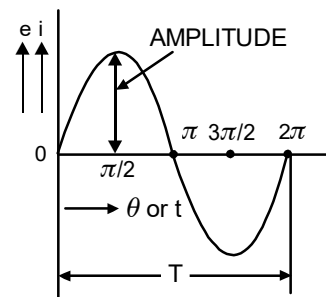

Fig.2.7: Wave shape of induced emf
From the above equation it is clear that the magnitude of the induced e.m.f. varies according to sine of angle θ . The wave shape of the induced e.m.f. is shown in fig. 2.7. This wave form is called sinusoidal wave.
If this voltage is applied across resistor, an alternating current will flow through it varying sinusoidally *i.e.* following a sine law and its wave shape will be same as shown in fig.2.7.
- (i) **Wave form** : The shape of the curve obtained by plotting the instantaneous values of alternating quantity (voltage or current) along y -axis and time or angle ($\theta = \omega t$) along x -axis is called *wave form* or *wave shape*. Fig.2.7 shows the waveform of an alternating quantity varying sinusoidally. The graphical representation of an alternating quantity is called its *wave form*.
The maximum value attained by an alternating quantity during one cycle is called is *peak value*. This is also called *maximum value* or *crest value* or *amplitude*. A sinusoidal alternating quantity obtains its maximum value at 90° as shown in fig. 2.7. The peak of an alternating voltage and current is represented by E_m and I_m . The knowledge of peak value is important in case of testing dielectric strength of insulating materials.